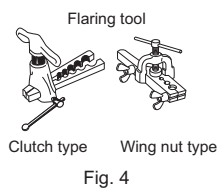

Fig. 4
- 4) Flaring work (Fig. 4, 5). Firmly hold copper pipe in the dimension shown in the table. Select A mm from the table according to the tool you use.